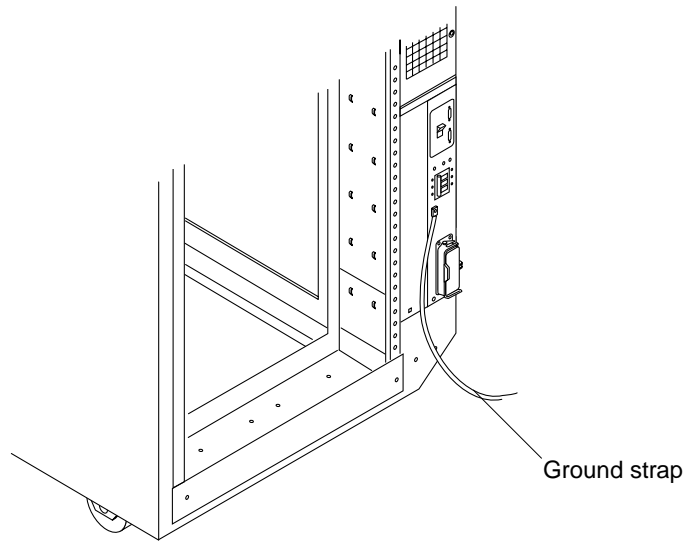

FIGURE 3-4 Connecting the Ground Strap to the System Cabinet Power Sequencer
- 2. Screw one end of the ground strap to the power sequencer on the system cabinet or on a cabinet nearest to the storage system (FIGURE 3-4).**